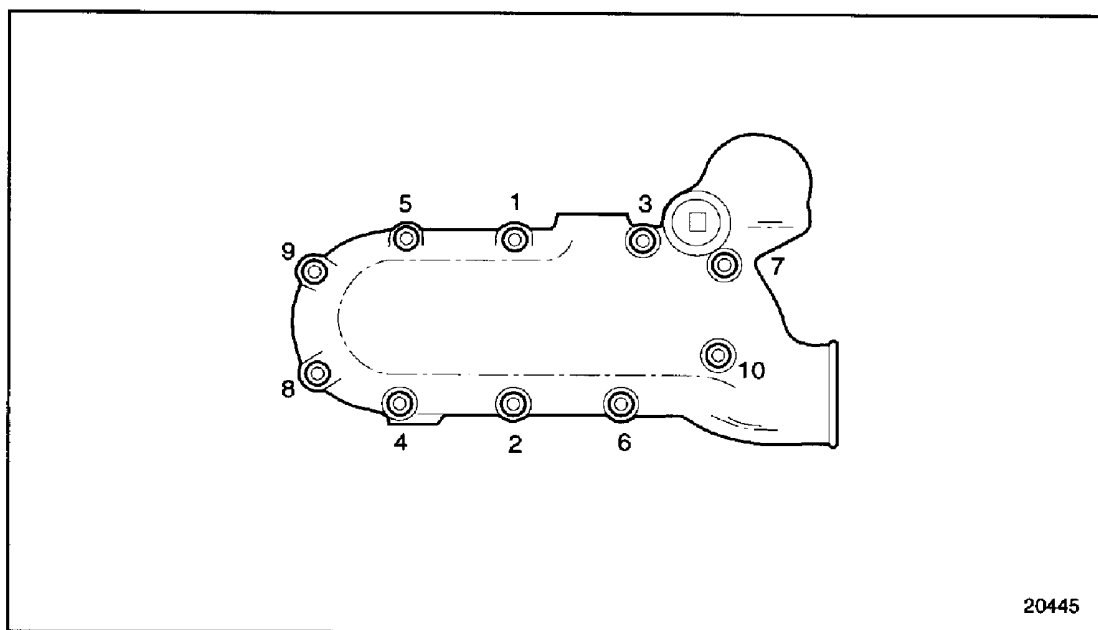

Figure 3-26 Oil Cooler Housing Bolt Torque Sequence
7. Align the oil cooler housing assembly to the oil filter adaptor. Install the ten oil cooler housing bolts and torque to 30-38 N·m (22-28 lb·ft) using the correct sequence. See Figure 3-26.